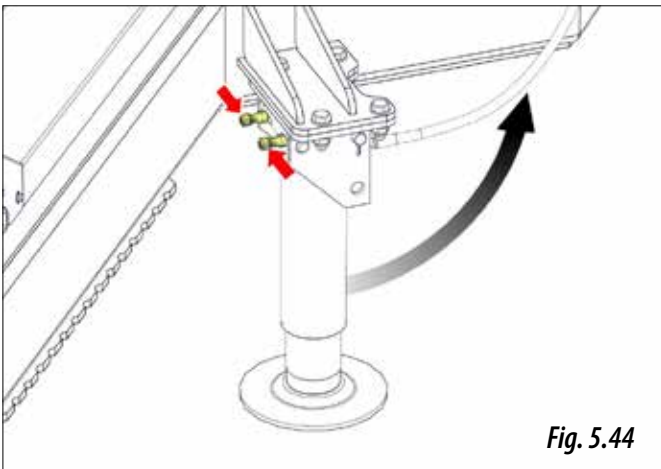

Fig. 5.44
- 2- Release the latches (Fig. 5.44) and raise the support leg until the latches are engaged again.